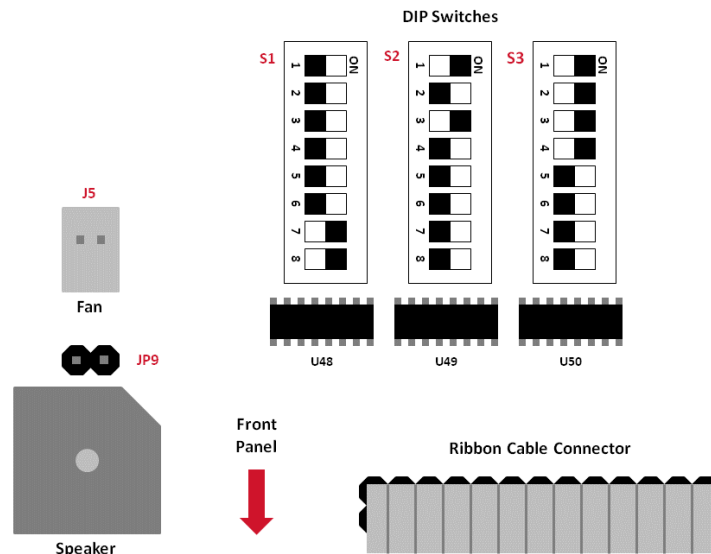

Figure 3. DIP switch and JP9 jumper location
6. Locate DIP Switch S1 (see **Figure 3**)
12. Locate DIP Switch S1-1 (see **Figure 3** on page 11)
6. Locate DIP Switch S1-2 (see **Figure 3** on page 11)
6. Locate JP9 jumper (see **Figure 3** on page 11)